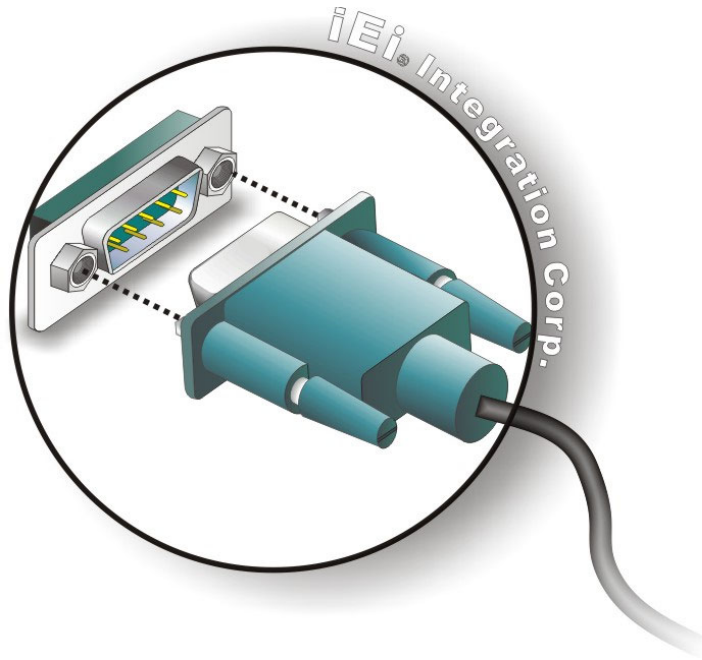

Figure 3-43: RS-232 Serial Device Connector
Step 2: **Insert the serial connector.** Insert the DB-9 connector of a serial device into the DB-9 connector on the bottom panel. See **Figure 3-43**.